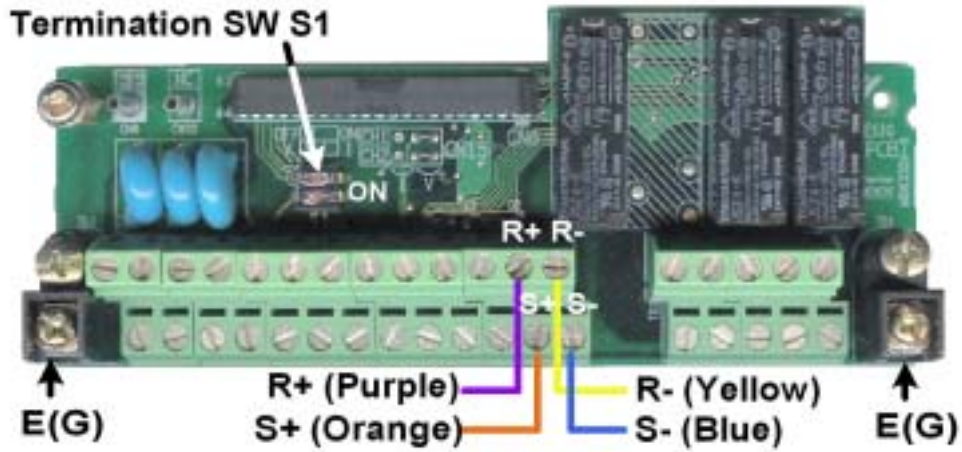
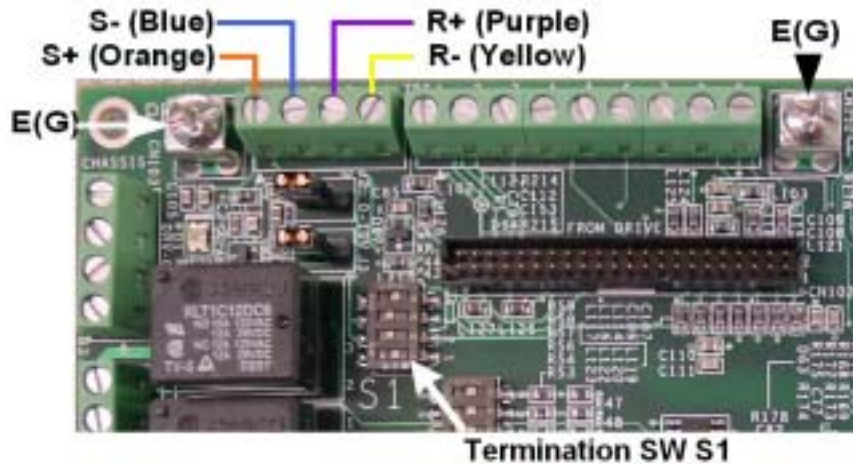
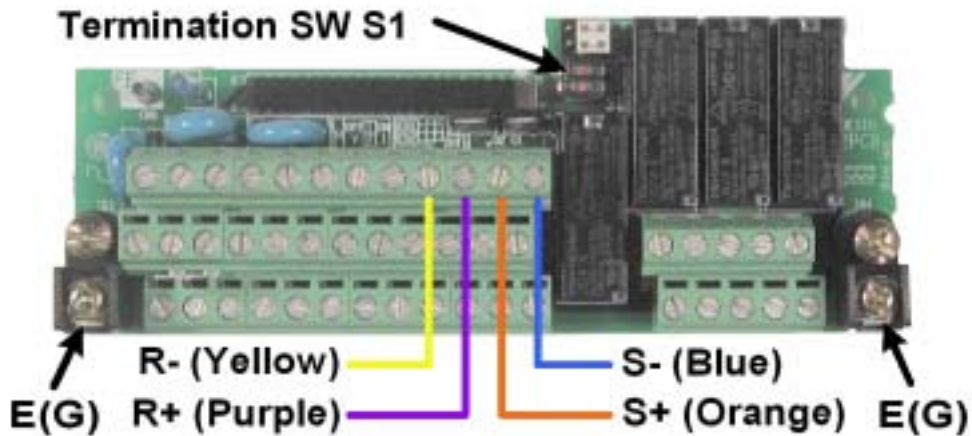

Figure 1.3 – LONWORKS Option E7, P7 and F7 Drive Connections
Figure 1.4 – LONWORKS Option E7L and E7B Connections
Figure 1.5 – LONWORKS Option G7 Drive Connections
- 4.3:** Install the communications cable. Refer to **Figure 1.3 – LONWORKS Option E7, P7 and F7 Drive Connections**, **Figure 1.4 – LONWORKS Option E7L and E7B Connections** and **Figure 1.5 – LONWORKS Option G7 Drive Connections**.
Since the *LONWORKS Option* utilizes the RS485 connection to the drive, it is necessary to set the termination resistor to the ON position on each drive's terminal assembly. Refer to *Figure 1.3 – LONWORKS Option E7, P7 and F7 Drive Connections*, *Figure 1.4 – LONWORKS Option E7L Connections* and, *Figure 1.5 – LONWORKS Option G7 Drive Connections* above for the location of the termination switch on the drive's terminal assembly.